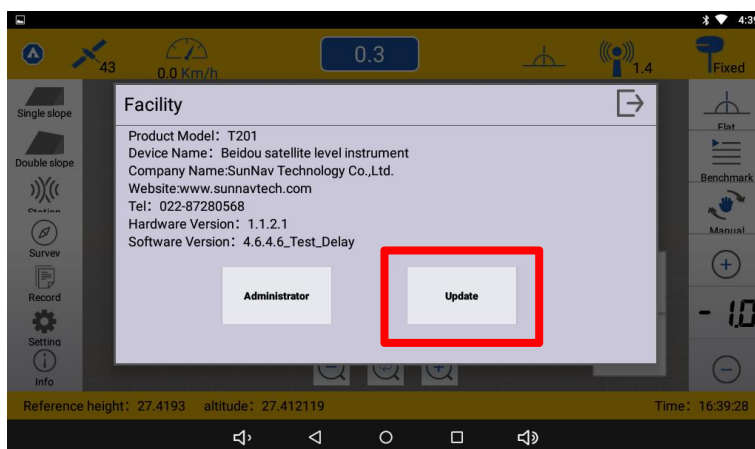

Figure 46
Step1. Click Update and input the password. (Figure 46, 47)